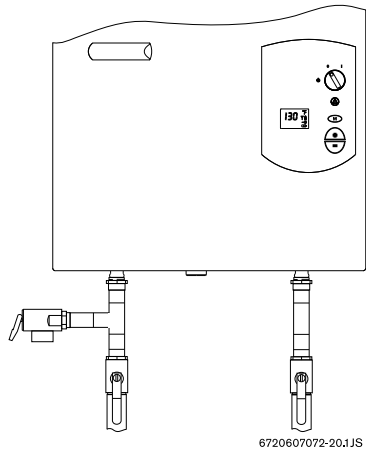

Fig. 26 Plumbing Connections and Pressure Relief Valve
If the cold and hot connections to the heater are reversed, the heater will not function. Be certain there are no loose particles or dirt in the piping. Blow out or flush the lines before connecting to the water heater. Full port valves should be installed on both the cold water supply and hot water outlet lines to facilitate servicing the heater (see Fig. 26). For installation on a private well system with the use of a pressure tank, the lowest pressure range setting recommended is 30-50 psi (2.07 and 3.45bar).
A listed pressure relief valve supplied with the heater must be installed at the time of installation. No valve is to be placed between the PRV and the heater. No reducing coupling or other restriction may be installed in the discharge line. The discharge line must be a minimum of 4" above a drain and installed such that it allows complete drainage of both the PRV and the line. The location of the PRV must be readily accessible for servicing or replacement, and be mounted as close to the water heater as possible. See Fig. 26. To install the PRV, a suitable fitting connected to an extension on a "T" fitting can be sweated to the hot water line. Support all piping.
- ▶ **2.** The gas valve must be shut off by putting the ON/OFF switch to position (0). Wait five (5) minutes to clear out any gas. If you smell gas, STOP! Follow "B" in the safety information above. If you do not smell gas, go to the next step.
- ▶ **4.** Set the ON/OFF switch to the (I) position. In this position, the water heater is ready to use.
**NOTE:** on a first time initial installation or after gas line work has been done, existence of air in the gas line will cause ignition delay when the hot water is turned on. This will result in an error (EA) on the units display screen. This is normal. When this occurs, leave the hot water running and wait 3-5 seconds, then reset the unit (Fig. 26, pos. 2). Wait for (EA) to disappear. The heater will begin to attempt ignition again, if the (EA) reappears then repeat this same process until all air has been bled from the gas line.